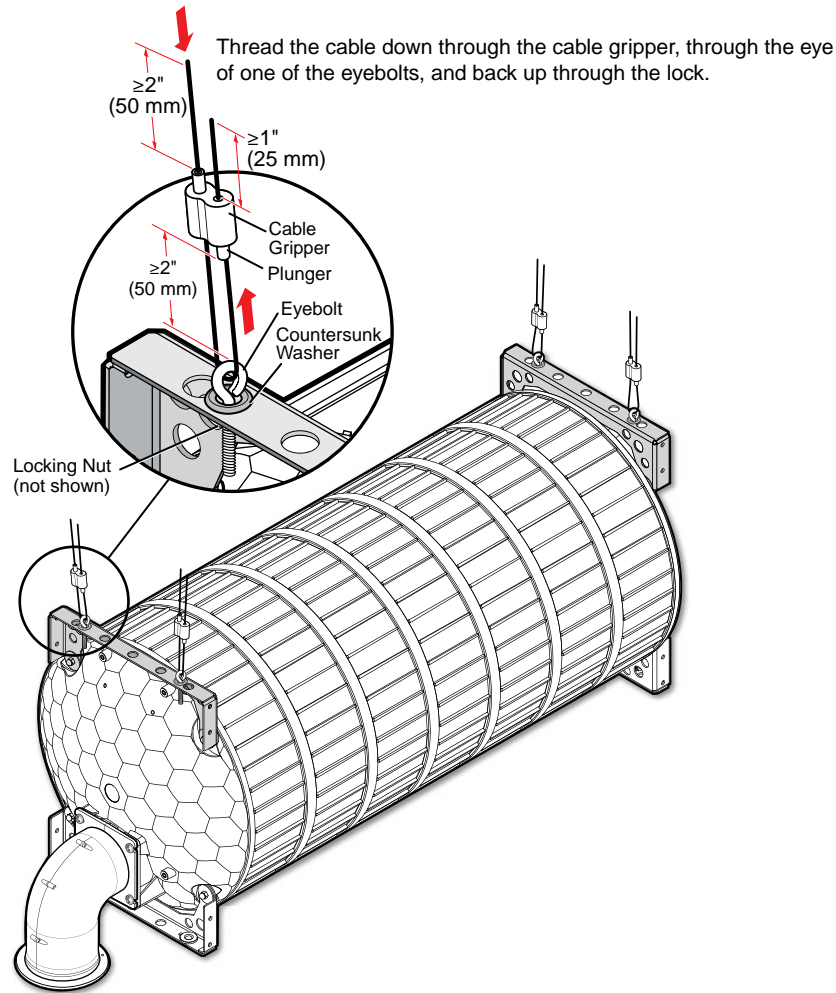

Figure 4. Installing the Subwoofer with the Included Steel Cables
1. Remove the grommets from all four corners of the subwoofer frame (see **figure 4** on the next page).
2. Install the included eyebolts into the four holes on the four corners of the subwoofer frame. Secure the eyebolts in place with the provided locking nuts (see **figure 4**).
4. Holding a cable gripper, pass the loose end of one of the cables down through one hole of the gripper. Ensure that about 12 to 15 inches (30 to 38 cm) of cable has exited the gripper (see **figure 4**).